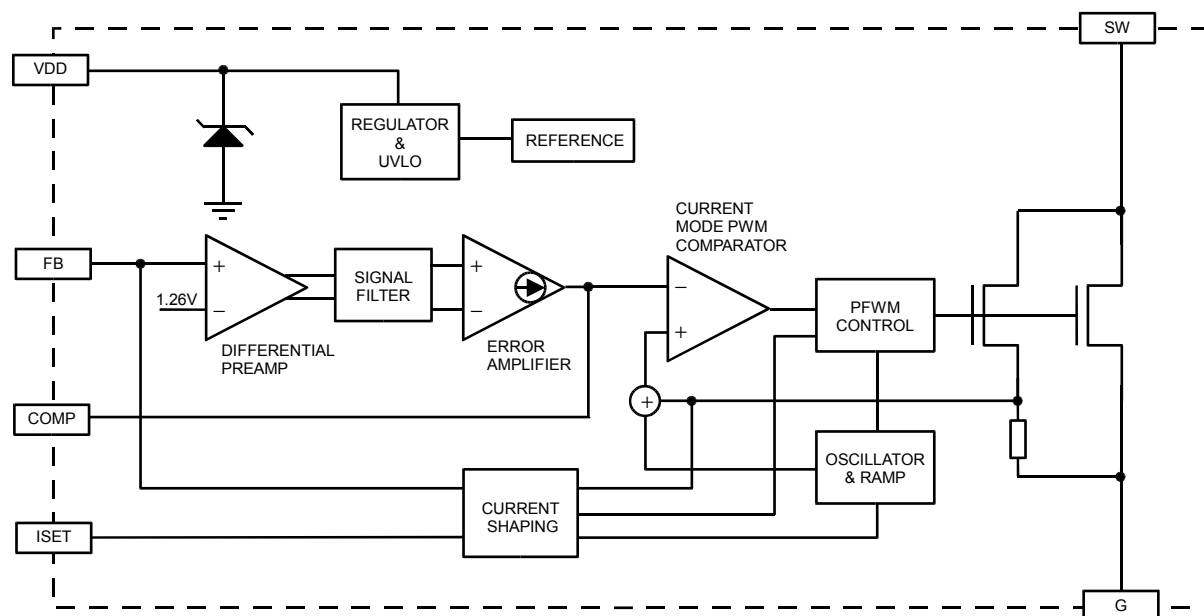

Figure 2. Functional Block Diagram
Figure 2 shows the *Functional Block Diagram* of the ACT34. Feedback regulation is done via several circuit blocks to pre-amplify the FB pin error voltage relative to an internal 1.26V reference, filter out the switching transients, and integrate the resulting useful differential error voltage for current mode PFWM (Pulse Frequency and Width Modulation) control. The external COMP pin allows optimal trade off between stability and transient response performance. The ISET pin externally programs the power switch peak current, and, together with the Current Shaping circuitry, produces a constant current (CC) profile when the secondary output reaches current limit.
(Circuit of Figure 2, unless otherwise specified.)